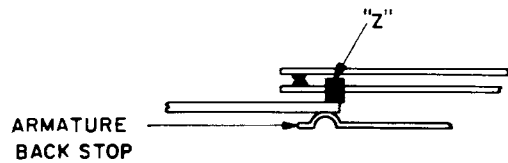
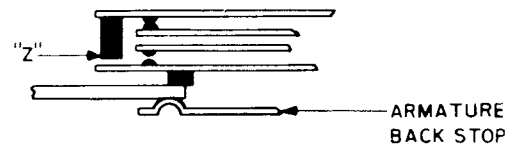

Figure 19. Armature spring adjustment.
Figure 20. Clearance between armature spring and bushing.
- e. Clearance between the armature level bushings, armature spring bushings, and the adjacent armature springs. Figure 19 shows this clearance at point "Z". Adjust the armature backstop with adjuster H-14769 to maintain clearance between the lever and spring 2. Adjust spring 4 to maintain clearance between springs 2 and 4, etc. This clearance is perceptible except between the lever bushing and spring 2. At this point clearance is usually greater. Figure 20 shows this clearance at point "Z," but in this case, the number 1 spring is an armature instead of a stationary spring. Clearance at "Z" is accomplished by the adjustment of spring 3. Springs 1 and 2 are gauged by adjustment of spring 2. The armature lever rests on the backstop when the relay is at normal. In this case the backstop is never adjusted to correct spring gauging.
Other P-A-X's use the standard class A horizontal relay. Armature stroke is required for relays having an armature spring as their No. 1 spring (see figure 20). Adjust the position of the armature backstop with adjuster H-14769.